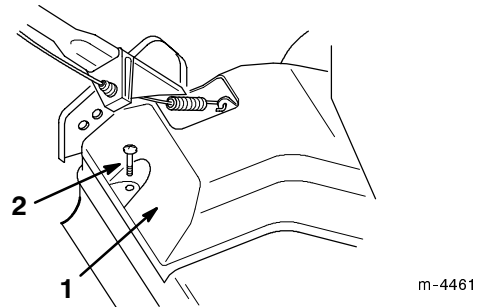

Figure 25
1. Remove the screw and slide the belt cover to the rear, unhooking the tab on front of the cover from the deck opening (Figs. 25 and 26).